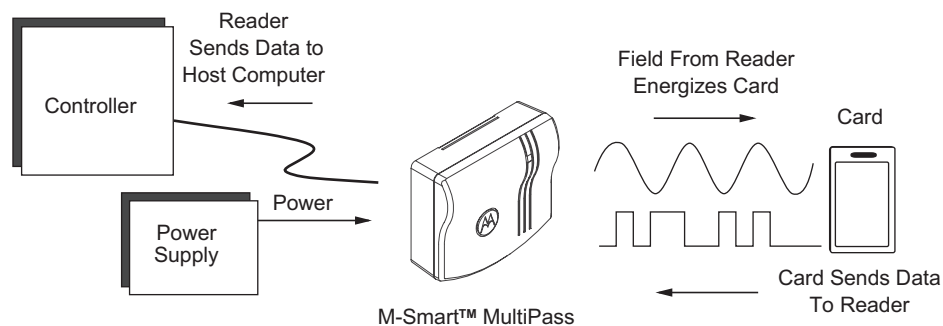

Figure 1 M-Smart™ MultiPass Block Diagram
When the reader is powered, a low-power radio frequency (RF) field is continuously transmitted by the reader (see Figure 1). When a card is presented within the field of the reader, the microchip, embedded in the card, is activated and transmits a unique identification (ID) number back to the M-Smart™ MultiPass reader. The reader decodes and converts this data to the pre-determined Wiegand or RS-232 compatible format and sends this code to an external controller through a data cable. With this information, the controller determines what action is to be taken as a response to the card presentation (e.g. open door).